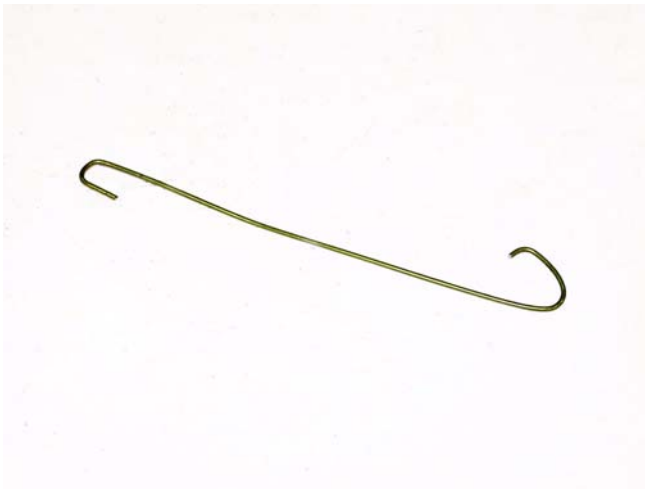

Figure 2.10
1. Bend a piece of wire to make a hook. See Figure 2.10.